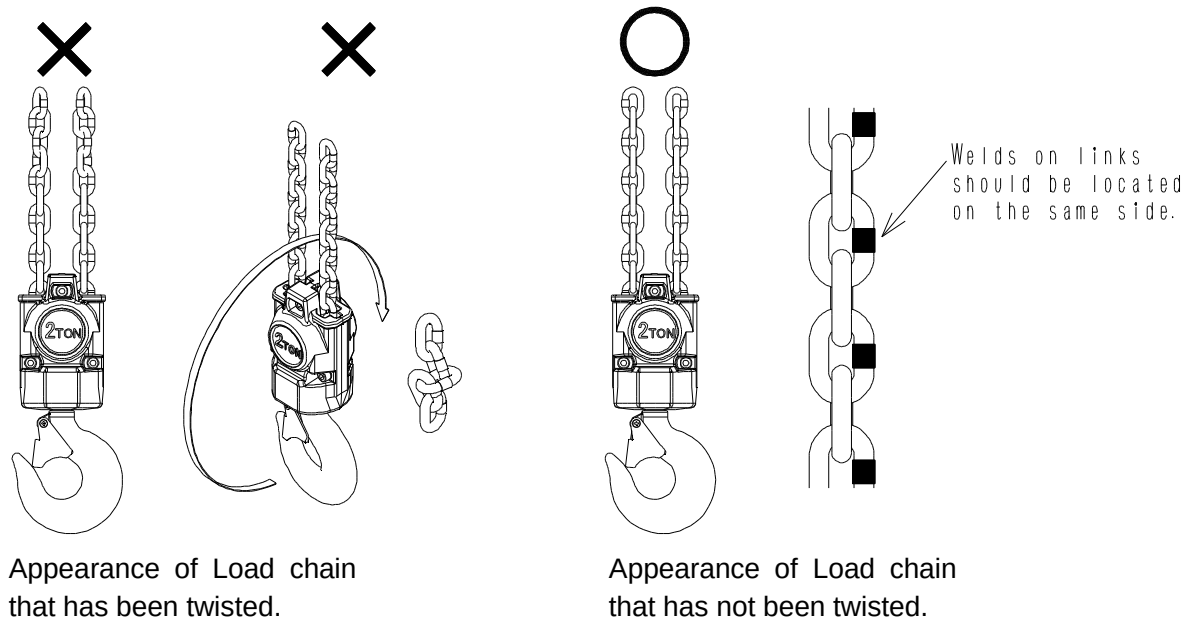

Fig.2
- When the air hose is connected to the hoist, pour about 10 drops of lubricant into the connecting port of the hoist. (See Chapter IX "1.(6) Recommended Lubricants".)
- In case of more than one chain falls, Bottom hook may be sometimes be rotated between two chain falls. This causes Load chain to be twisted (See Fig. 2). Before operation, check for and correct any twisting of Load chain.